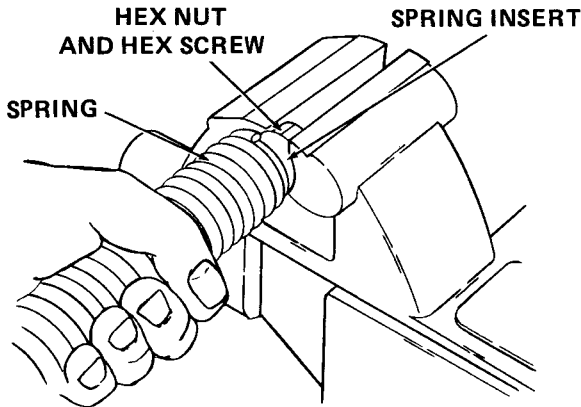

Figure A-25
12. Assemble spring (12) onto spring insert (13) as follows:
- a. Thread one 3/8-16 nut onto one 3/8-16 hardened bolt (grade 5 or 8). See Figure A-25. (Hardware not provided with hitch.)
- d. Screw spring onto spring insert until it is even with edge of spring insert. Refer to Figure A-25.